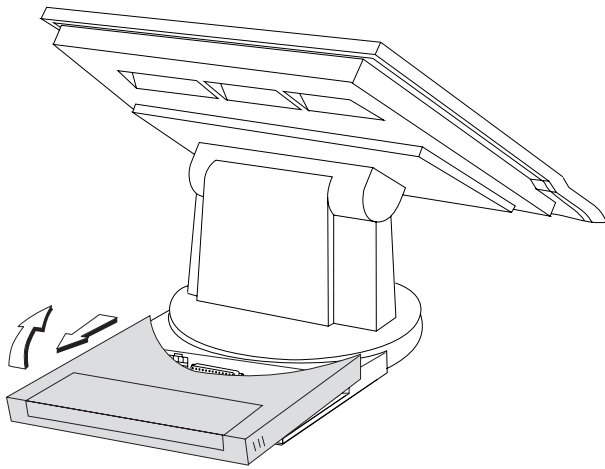

Figure 3-11. Opening the Rear Door
- 1 Slide the rear door all the way out, then pivot the rear door upward as shown in Figure 3-11
- 1 Open the rear door. See Figure 3-11 on page 3-13.